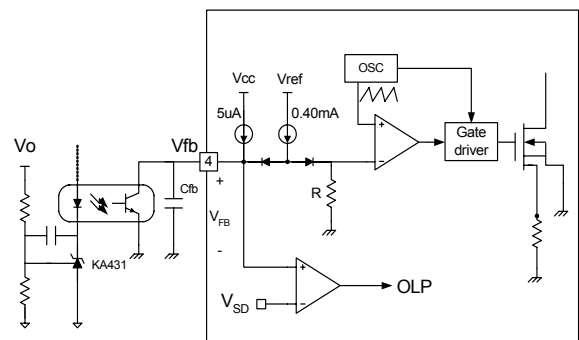

Figure 6. PWM and Feedback Circuit
2. Feedback Control : The FSDM311 is the voltage mode controlled device as shown in Figure 6. Usually, an optocoupler and KA431 type voltage reference are used to implement the feedback network. The feedback voltage is compared with an internally generated sawtooth waveform. This directly controls the duty cycle. When the KA431 reference pin voltage exceeds the internal reference voltage of 2.5V, the optocoupler LED current increases, the feedback voltage V_{fb} is pulled down and it reduces the duty cycle. This will happen when the input voltage increases or the output load decreases.